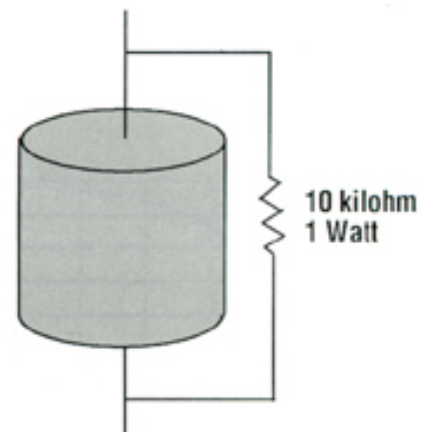

Fig. 5: Connect a 10 k ohm 1 watt resistor across the capacitor terminal for discharging.
2. Carefully discharge the capacitor you are testing by connecting a 10k ohm 1 watt resistor across the terminals (Figure 5).